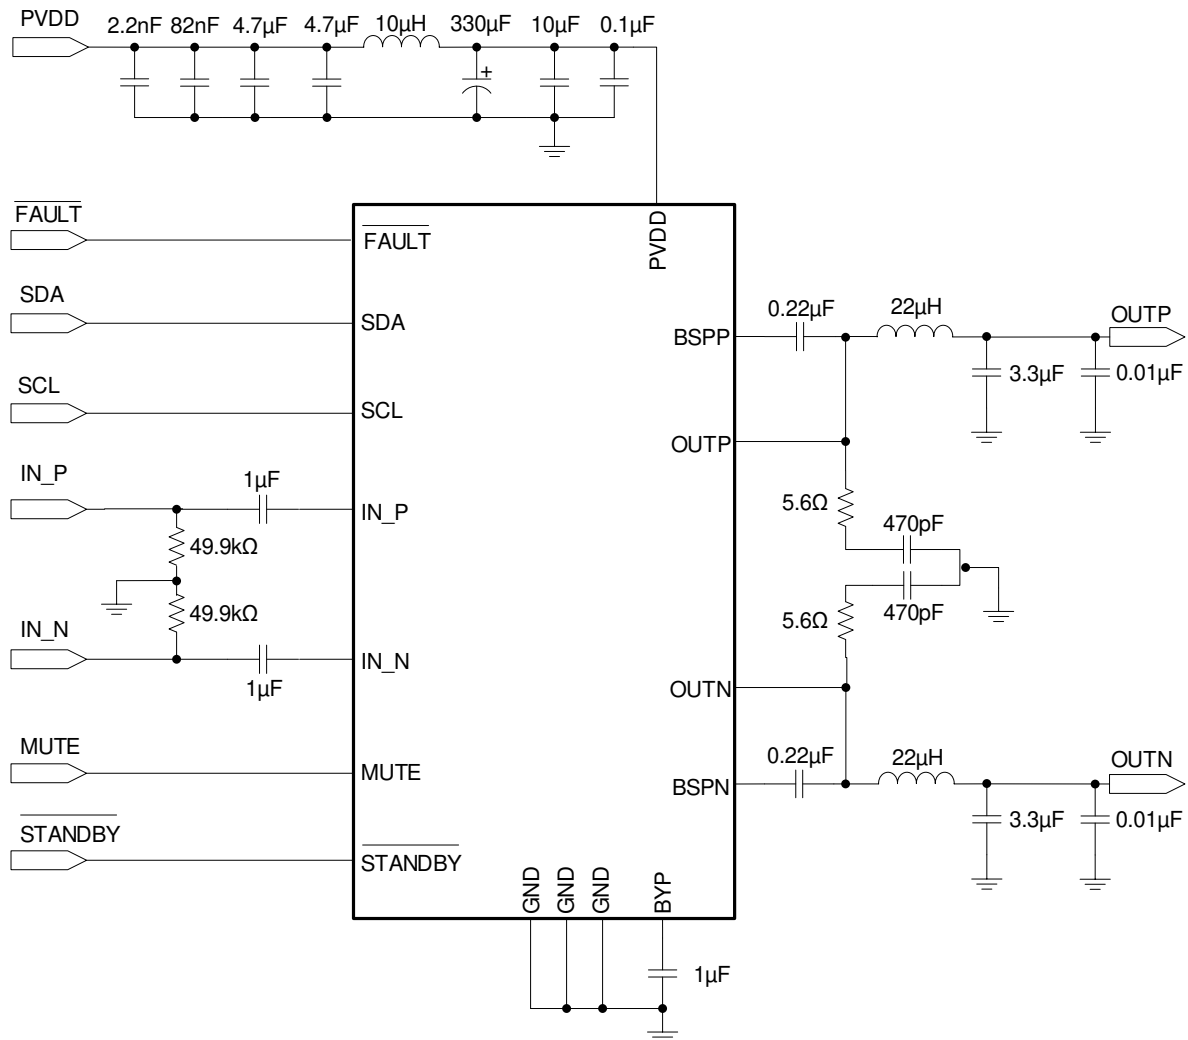

Figure 8-1. TAS5441-Q1 Typical Application Schematic
The output stage uses dual NMOS transistors; therefore, the circuit requires bootstrap capacitors for the high side of each output to turn on correctly. The required capacitor connection is from BSTN to OUTN and from BSTP to OUTP as shown in Figure 8-1.
- Step 1: Hardware Schematic Design: Using the Figure 8-1 as a guide, integrate the hardware into the system schematic.